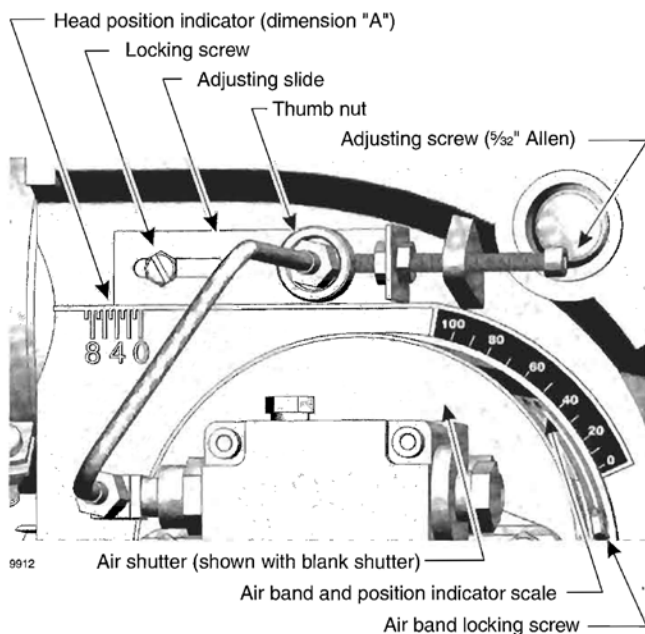

Figure 7A: Combustion Head Adjustment - 102CRD Burner
- i. Verify combustion head setting, refer to Table 12 at the rear of this manual. Read the scale embossed in the housing, which is calibrated in 1/16-inch divisions (dimension 'A') the position of the flame retention ring in relation to the air cone can be determined at a glance. Refer to Figure 7A.
- ii. By moving the electrode and combustion head assembly forward or backward, the location of the flame retention ring relative to the throttle ring can be controlled. Refer to Figure 7A. By loosening the locking screw and thumb-nut and turning the adjusting screw using a 5/32-inch allen wrench, the assembly can be moved to the required position.